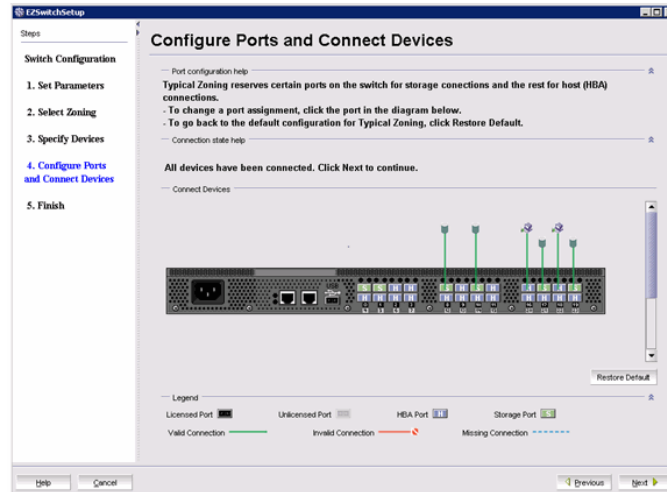

FIGURE 16 Configure Ports and Connect Devices window
- **Typical Zoning** creates a port-based zoning scheme based on the connections made on the **Configure Ports and Connect Devices** window (Figure 16). This zoning scheme creates a two-member zone for every possible pairing of HBA (H) and storage (S) ports connected on the **Configure Ports and Connect Devices** window. This ensures that any host device connected to an H port is able to communicate with any storage device connected to an S port.
3. Click **Next**. The **Configure Ports and Connect Devices** window is displayed (Figure 16 on page 22).